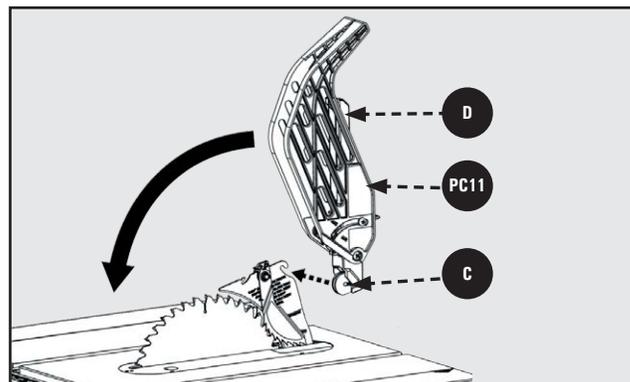

Figure 21
2. Rotate the Blade Guard Assembly toward the front of the saw until Support Arms **D** of the Blade Guard Assembly are parallel to the Table as shown in Figure 21.